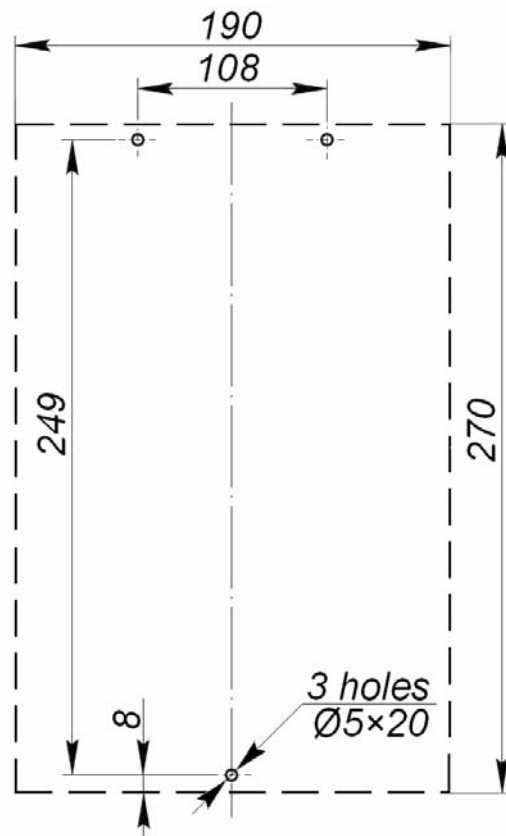

Figure 7 . Hole pattern for SPU mounting)
6. designate the location of the SPU (7) and mark the mounting holes according to Figure 7;
7. lay the power cable (4), the control cable (5) and the ground bus;
8. undo the M8 bolt of the mount bracket (9) at the gate bottom, take out the mount bracket and connect the power cable and the control cable;
9. restore the mount bracket (9), connect the ground bus to the M8 bolt;
10. mount the gate post (1) upright into service position, anchor it temporarily;
11. connect the power cable (4) and the control cable (5) to the SPU (7);
12. connect the RC panel cable (6) to the SPU;
13. take off the cover (8);
14. turn the rotation unit (11) in either direction at an angle of approx. 90° relatively to the central position;
15. mount the swing panel (2) into the respective mounting seat of the rotation unit (11), fix the swing panel by two M8×30 screws with washers 8;
16. return the rotation unit (11) into the initial position;